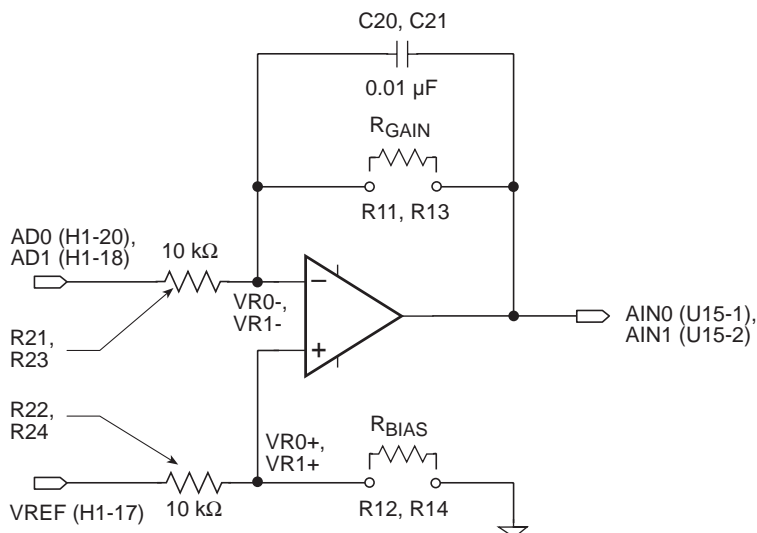

Figure 3-10. Gain and Bias Resistors for Conditioned Analog Inputs
- The ratio of the user-specified gain resistor R_{GAIN} (R11 or R13) to its associated fixed input resistor (R21 or R23) determines an amplifier's gain. For the amplifier in Figure 3-10 with its input resistor fixed at 10 k Ω , the gain is